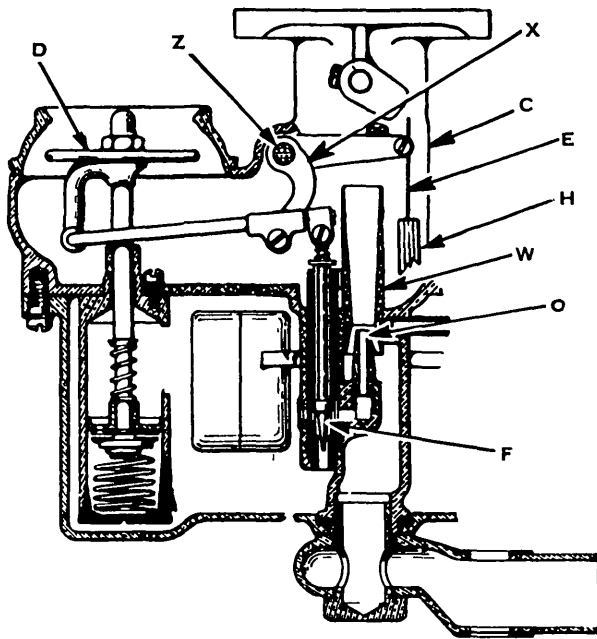

Fig. 3
**Idle Adjustment.**—Turn the idle adjusting knurl Fig. 3 to the right for a lean mixture and to the left for a rich mixture. To check the idle adjustment, warm up the motor thoroughly and by this we mean to have the motor hot; then close the
The adjustment is made by turning the range adjusting screw (B) Fig. 3 to the left for a lean mixture and to the right for a rich mixture in the driving range.
With throttle wide open, adjust the cam tappet screw until there is about  $\frac{1}{8}$ " to  $\frac{5}{32}$ " space between the dash control lever (P) Fig. 3 and the end of the range screw (B).